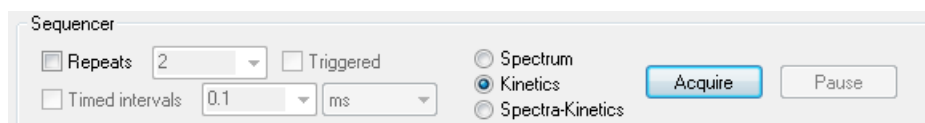

Figure 2-12: the Sequencer panel for absorbance kinetics
2) Ensure that **Kinetics** mode is selected on the **Sequencer** panel (Figure 2-12).